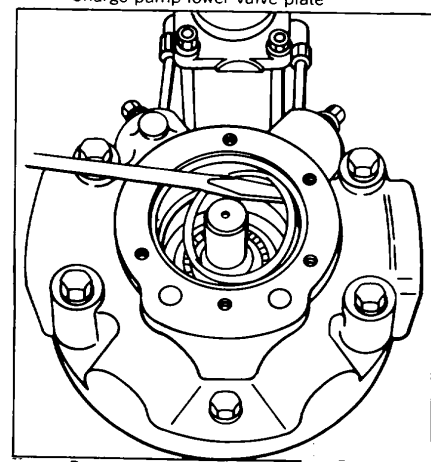

Figure 109.
3. Remove pin (46) from shaft (1). Lift out lower charge pump valve plate (42) and, using a screw driver, remove O ring (41). See Fig. 109.